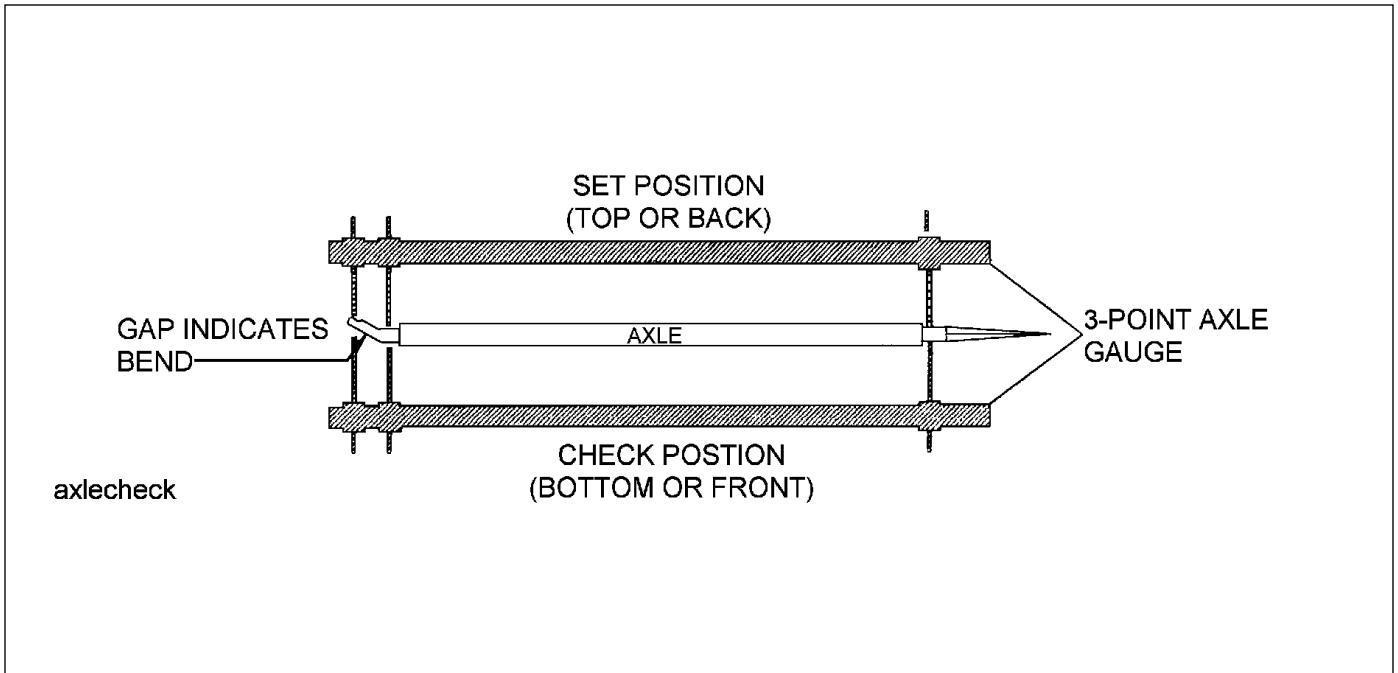

Figure 4-7: Checking Axle for Bend
2. Place a 3-point axle gauge against the front side of the axle, and adjust each axle gauge point to the axle. (Double point end against the inner and outer wheel bearing surfaces of the spindle being checked and the other point on the inner bearing surface on the other spindle.)**(See Figure 4-7)**
3. Move the axle gauge and place against the back side of the axle. If either of the points of double point end fails to touch the axle surface, a bent spindle is evident. A point gap of .015" or more is considered excessive tire “toe” and the axle must be replaced **(See Figure 4-7)**